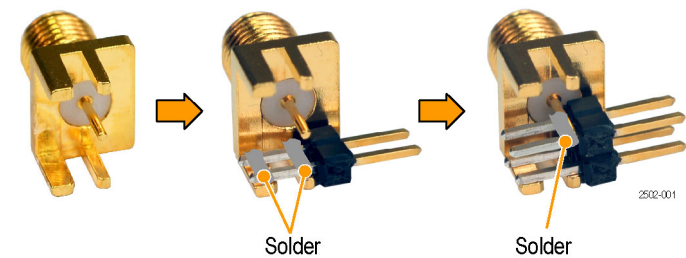

Figure 5: Solder square pins to the SMA connector
1. Arrange one SMA connector as shown. (See Figure 5.)